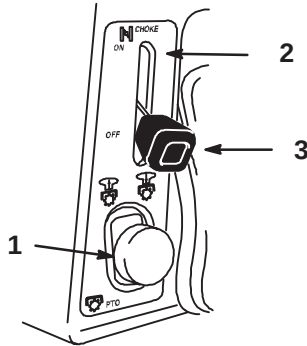

Figure 3
3. Push the PTO (power take off) to **off** (Fig. 3).
4. Move the choke lever to **on** (Fig. 3).
1. Push the PTO (power take off) to **off** (Fig. 3).